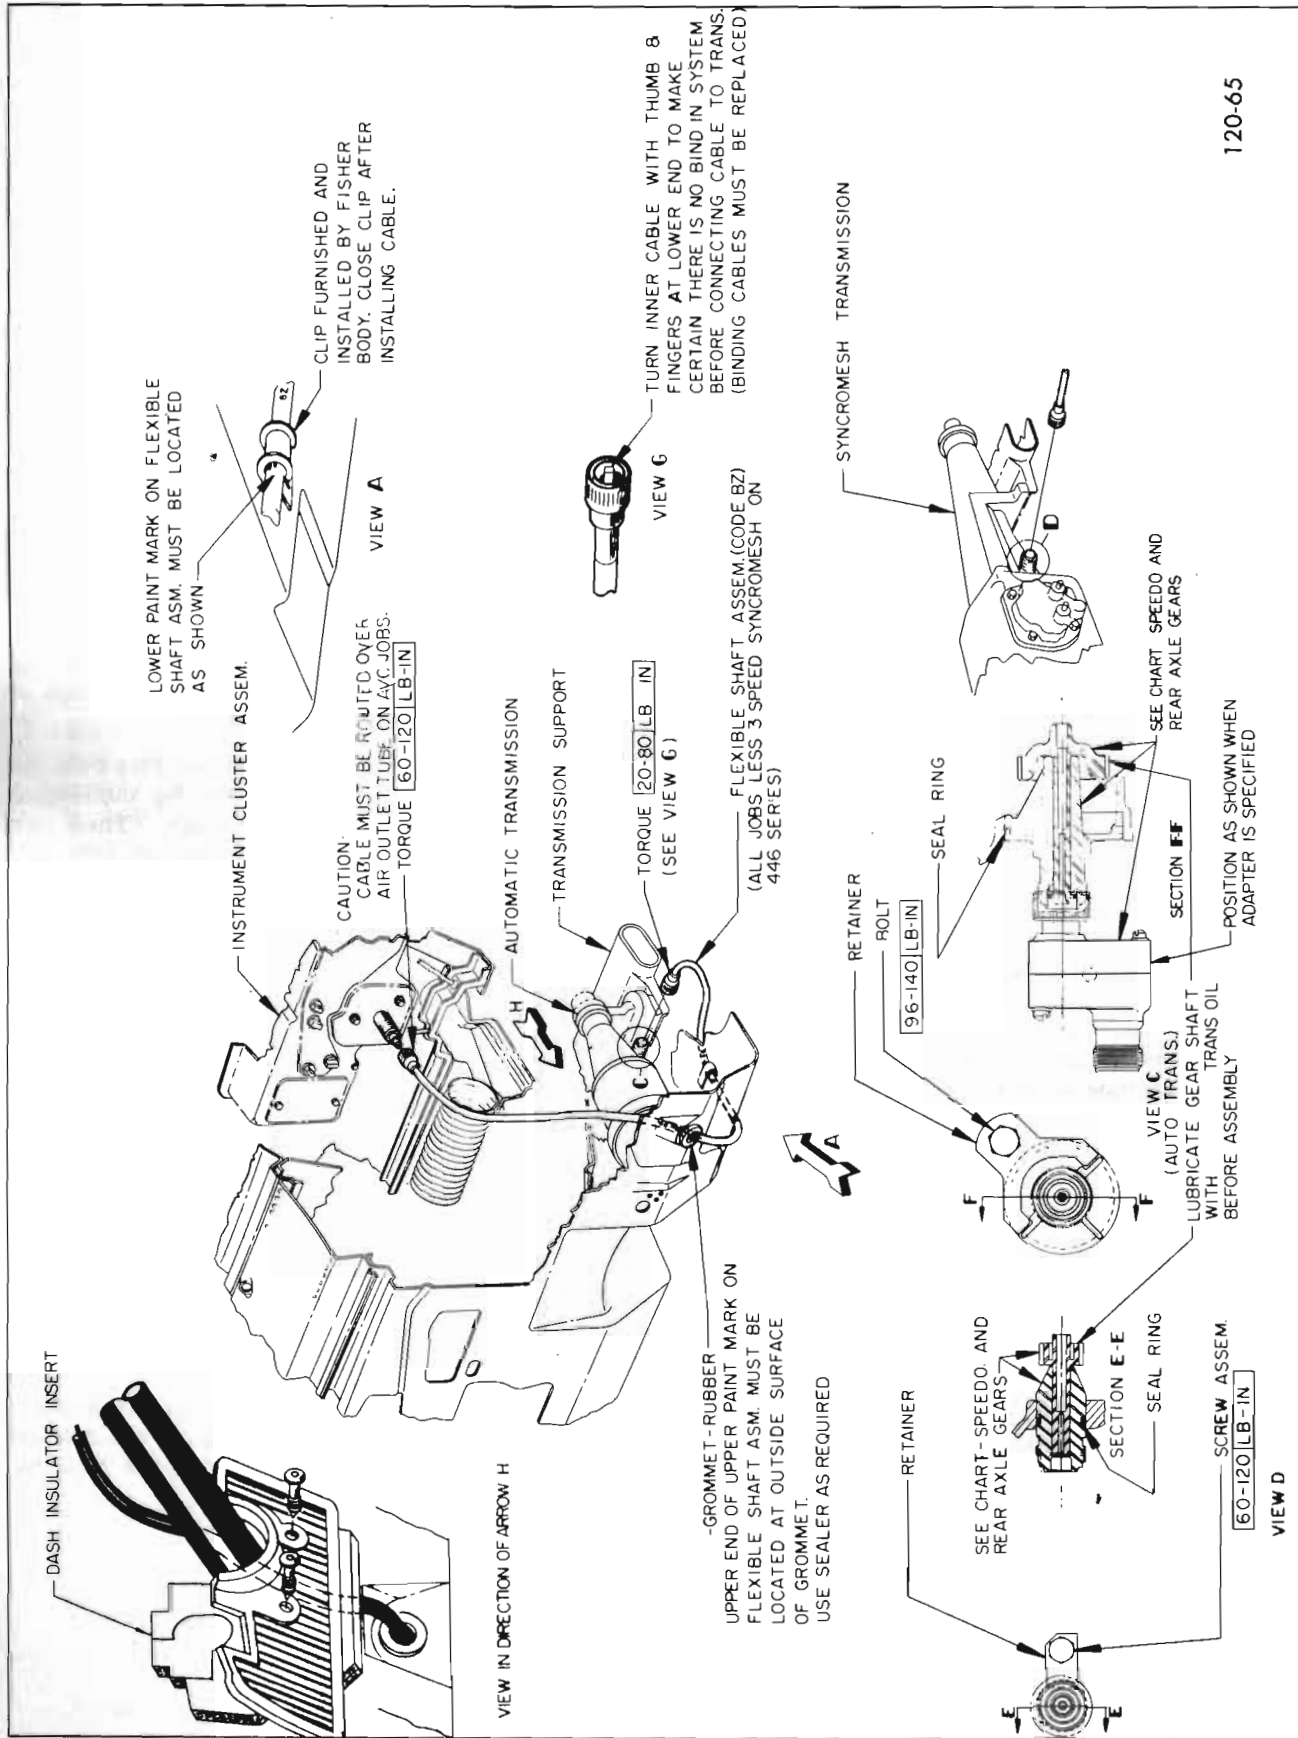

Figure 120-65—Speedometer Cable Installation - Lower Series Except 3 Speed Floor Manual Trans.
5. If noise disappears with transmission stationary, check further for cause of noise by checking for proper installation of speedometer cable as shown in Figure 120-65 through 69.
indicator wavers, inspect the cable casing for damage, sharp bends, for being out-of-position in the supporting clips. See Figures 120-65 through 69. If casing is in good condition and properly installed, remove inner cable for inspection. If casing is kinked, replace it.